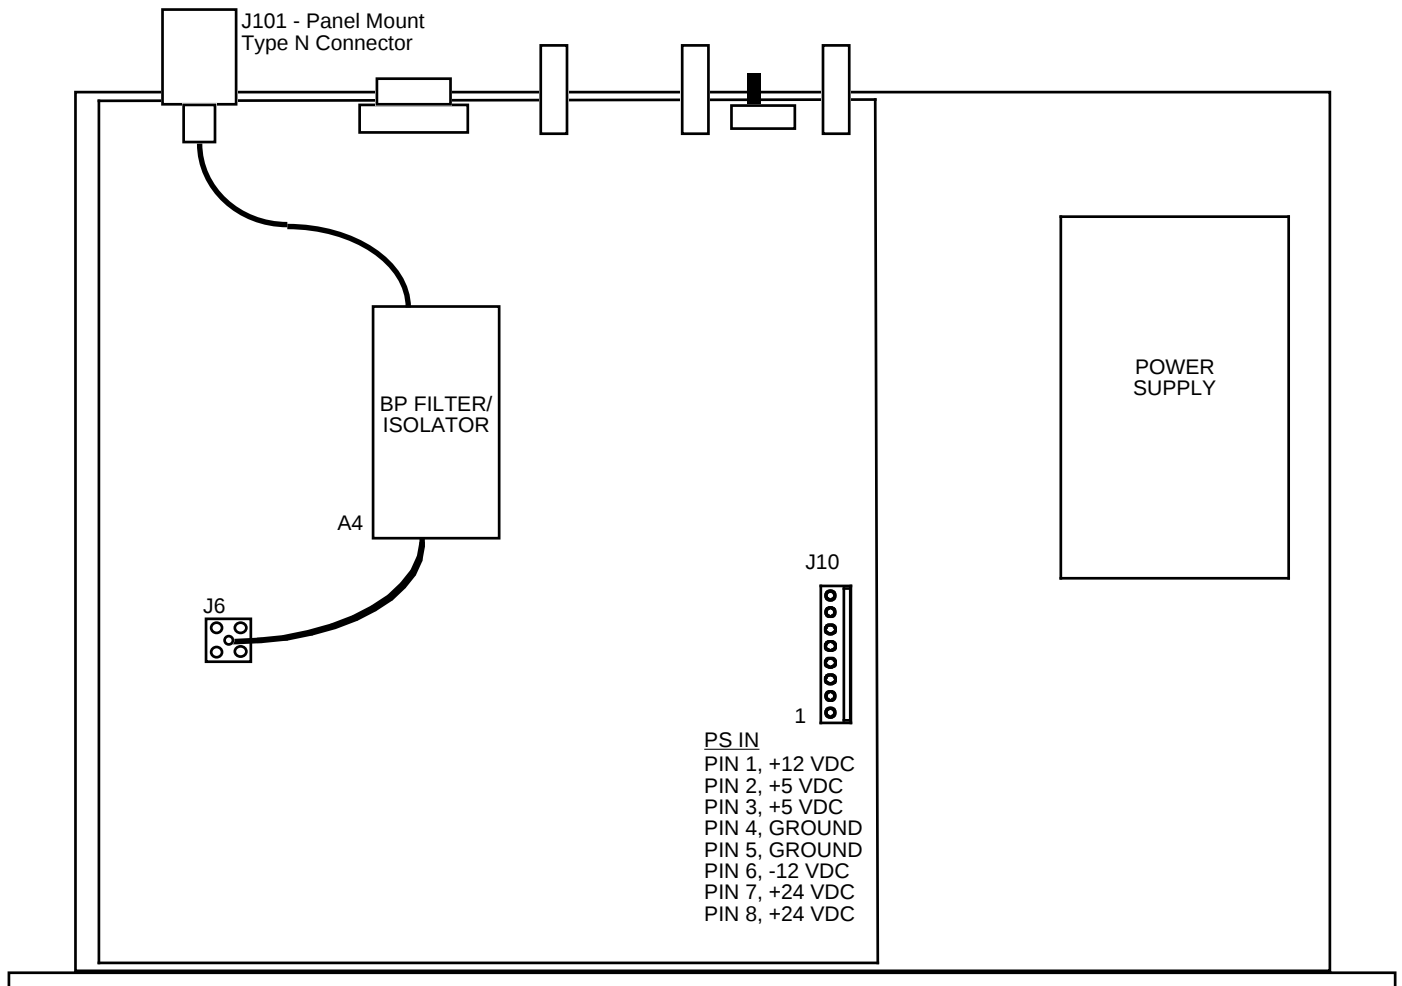

FIGURE 2.0 2116-72 Mechanical Assembly
2.1 Mechanical - The 2116-72 consists of one RF PCB housed in a 1 RU (1 3/4 inch high) by 12 inch deep chassis. A switching, ± 12 , +24, +5 VDC power supply provides power for the assemblies. The 2116-72 can be secured to a rack using the 4 holes on the front panel. Figure 2.0 shows how the 2116-72 is assembled.